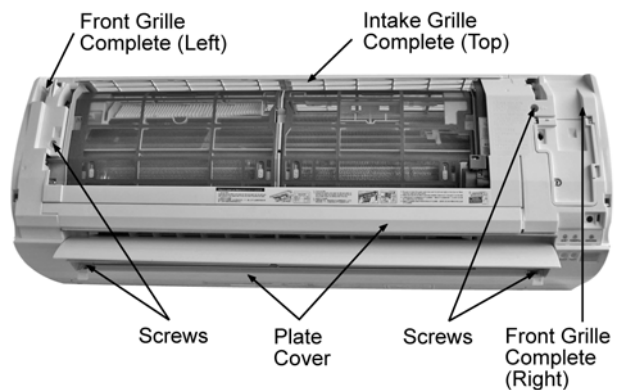

Fig. 2
2. Remove the Intake Grille Complete (Top). (Fig. 2)
3. Remove the Front Grille Complete (Right) by releasing the 2 screws. (Fig. 2)
4. Remove the Front Grille Complete (Left) by releasing the 2 screws. (Fig. 2)
5. Remove the 2 Plate Cover. (Fig. 2)